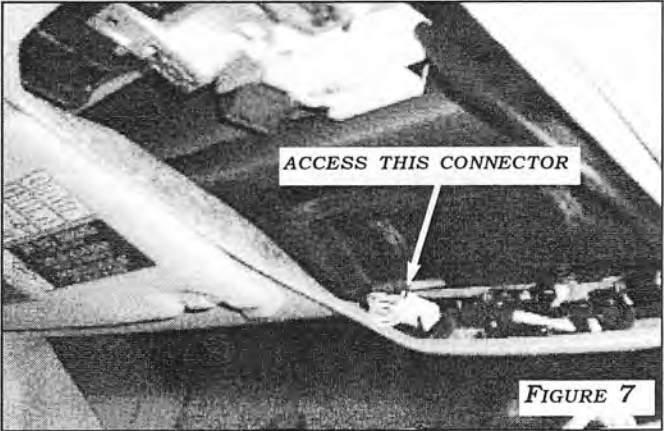

FIGURE 7
4. Dislodge the white 12-pin vehicle connector from the holding clips shown in **FIGURE 7.**